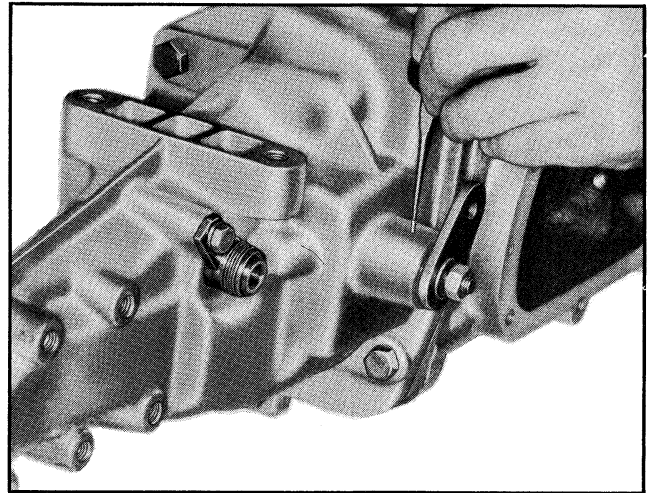

Fig. 7A-15 Removing Shifter Shaft Lock Pin
4. Remove the main drive gear retaining nut (Fig. 7A-14) using tool J-0933 after locking up transmission by shifting into two gears.